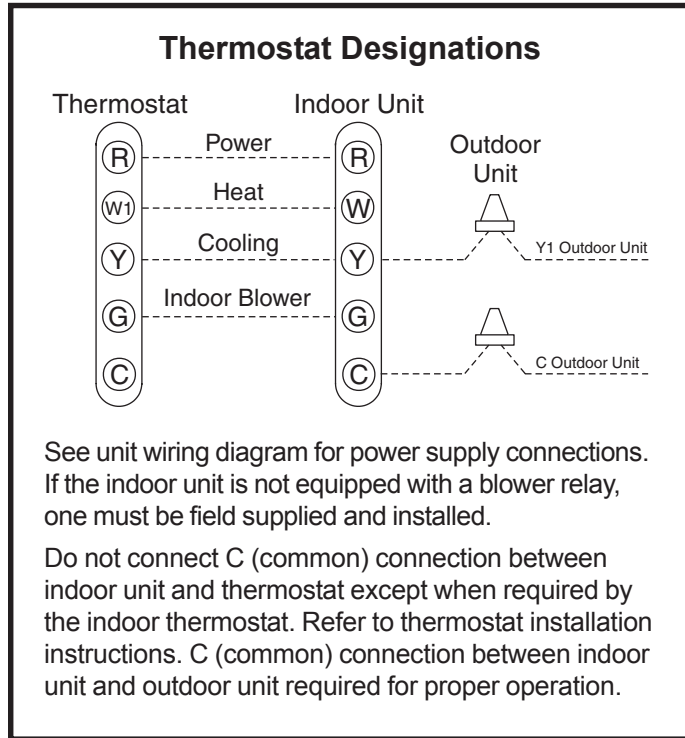

Figure 5
- Install low voltage wiring from outdoor to indoor unit and from thermostat to indoor unit (see Figure 5).